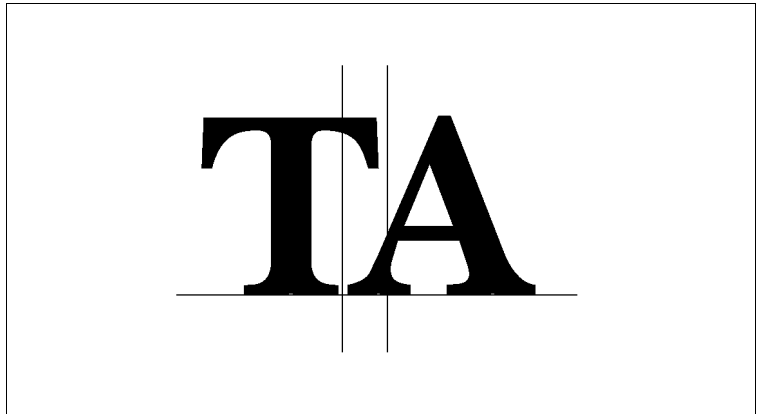

Figure G-4. The Kerned Letters T and A
The smallest value is 27. To adjust for maximum kerning, 27 is subtracted from the horizontal escapement of T (135), with the result being 108. Setting the A after the T with an escapement of 108 results in a kerned pair with maximum kerning. Figure G-4 shows TA with maximum kerning applied.